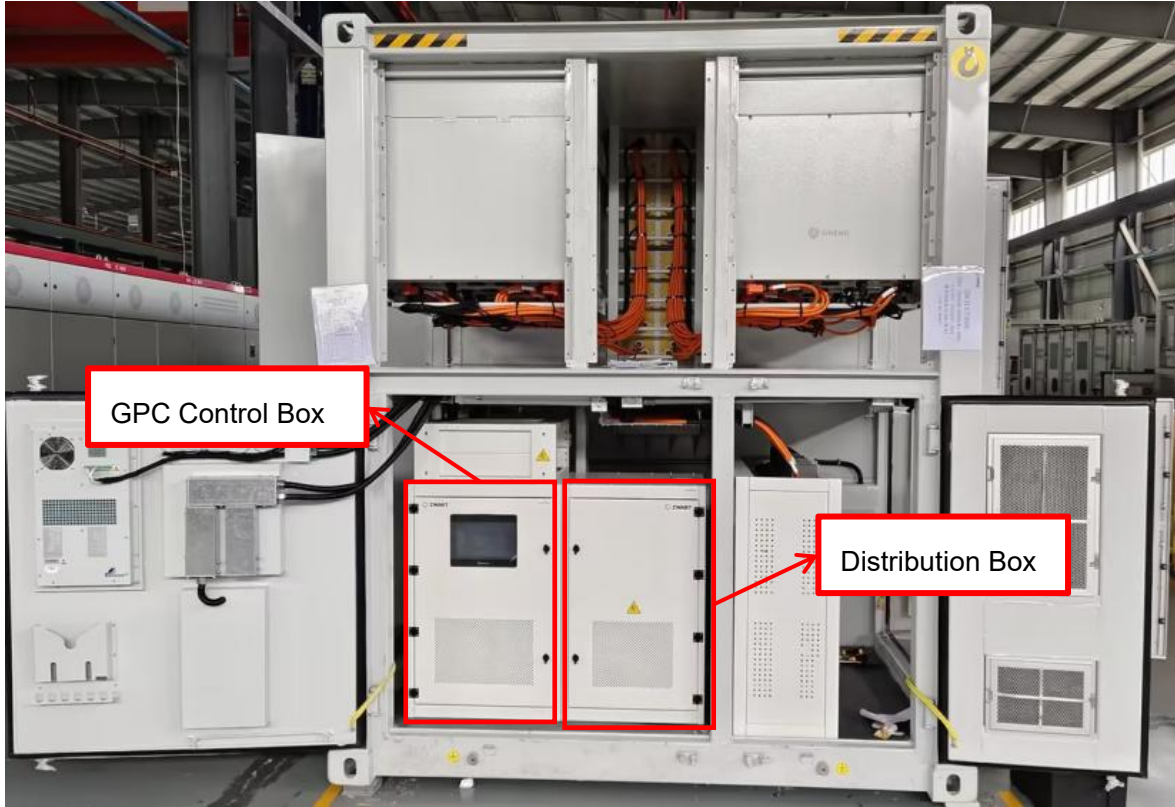

Figure 6-18 Distribution room layout
The distribution box (DB) and control box (GPC) are located below the PCS, the distribution of the distribution room is shown in Figure 6-18 Distribution room layout